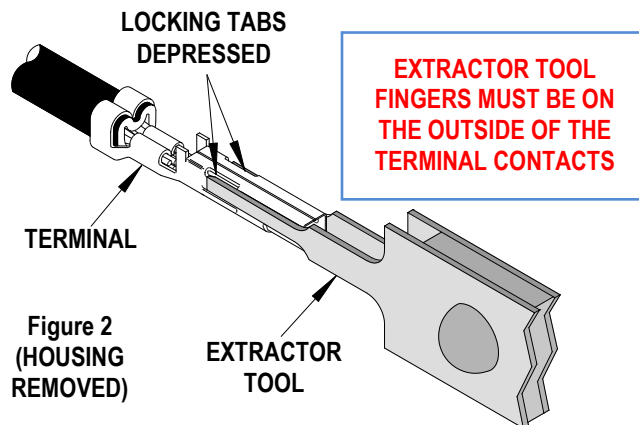

Figure 2
3. Continue to insert the tool always checking to see that the blades of extraction tool are on the outside of the contact as shown in Figure 2.
4. Continue to insert extraction tool into housing until the locking tangs have snapped out of their locked position. If the terminal locking tabs are still not totally depressed, hold on tight to the wire and push it towards the extractor tool, this will completely depress the locking tabs. See Figure 2.